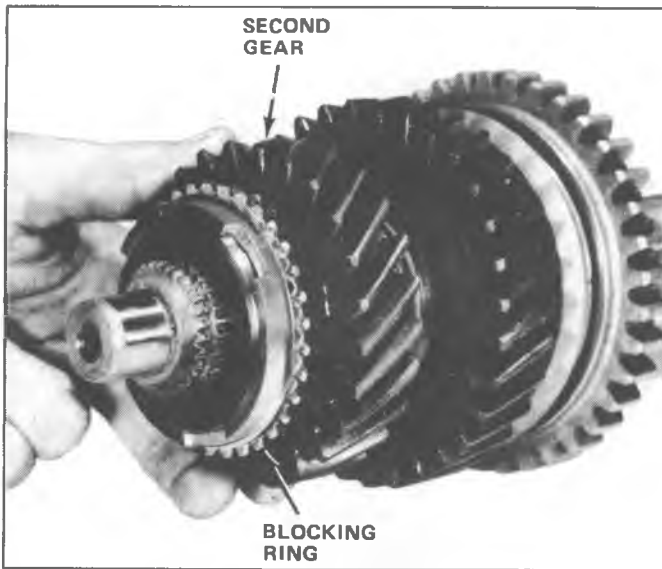

Fig. 19R--Installing Second Gear
6. Place second gear blocking ring on tapered surface of gear and install second gear on output shaft with tapered surface of gear facing front of output shaft (fig. 19R).